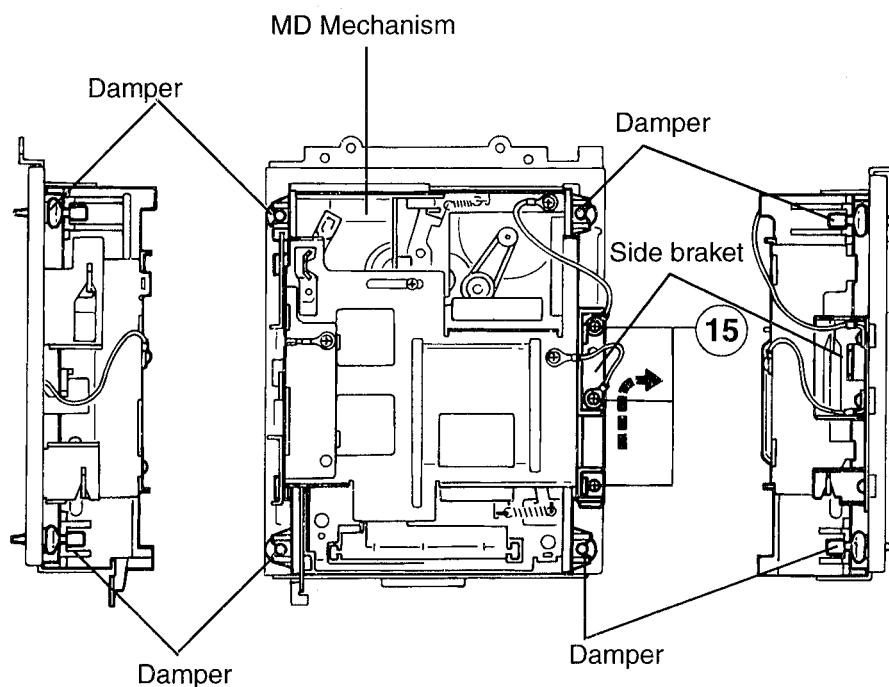

Fig. 16
■ Removing the MD Mechanism (See Fig. 16)
- 1.Remove the three screws ⑮ retaining the side bracket from the left side of MD Mechanism.